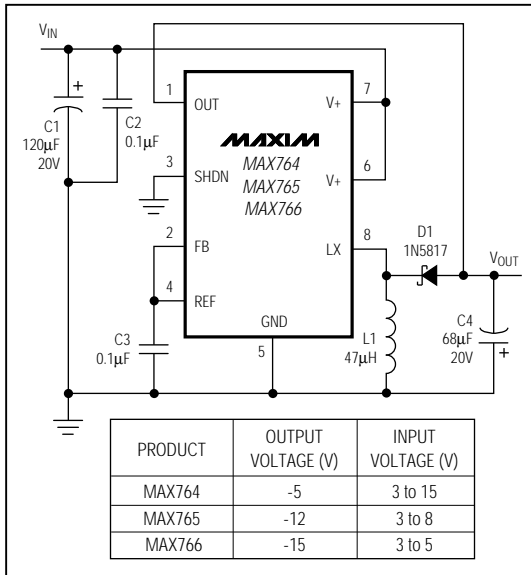

Figure 2. Fixed Output Voltage Operation
**Note 2:** Circuit of Figure 2.
CIRCUIT OF FIGURE 2, V+ = 5V, ILOAD = 100mA, VOUT = -5V
CIRCUIT OF FIGURE 2, V+ = 5V, VOUT = -5V
CIRCUIT OF FIGURE 2, VOUT = -5V, ILOAD = 100mA
CIRCUIT OF FIGURE 2, V+ = 5V, VOUT = -5V, ILOAD = 140mA
CIRCUIT OF FIGURE 2,  $V_+ = 5V$ ,  $V_{OUT} = -5V$ ,  $I_{LOAD} = 80mA$
CIRCUIT OF FIGURE 2,  $V_+ = 5V$ ,  $V_{OUT} = -5V$ ,  $I_{LOAD} = 240mA$
Figures 2 and 3 show the standard application circuits for these devices. In these configurations, the IC is powered from the total differential voltage between the input (V+) and output (VOUT). The principal benefit of this arrangement is that it applies the largest available signal to the gate of the internal P-channel power MOSFET. This increased gate drive lowers switch on-resistance and increases DC-DC converter efficiency.